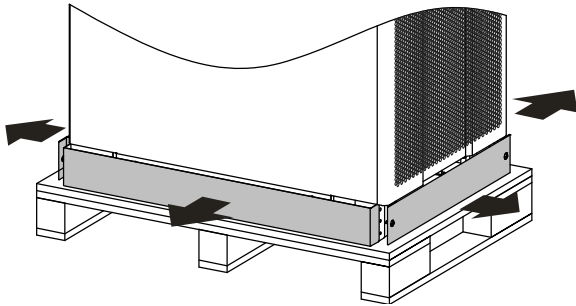
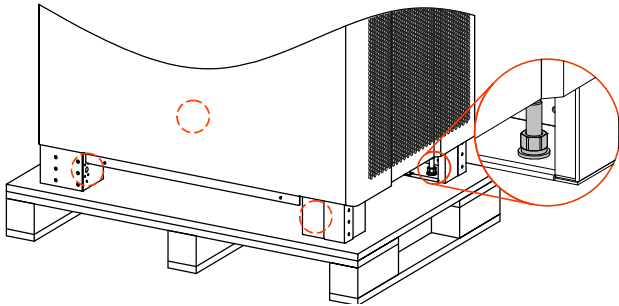

Figure3-8 Remove bottom cover plates
Figure3-9 Bolts position
Step 4 Dismantle the bottom cover plates (as shown in Figure3-8), and unscrew the bolts that fasten the UPS and wood bracket, and then remove the bolts (as shown in Figure3-9).